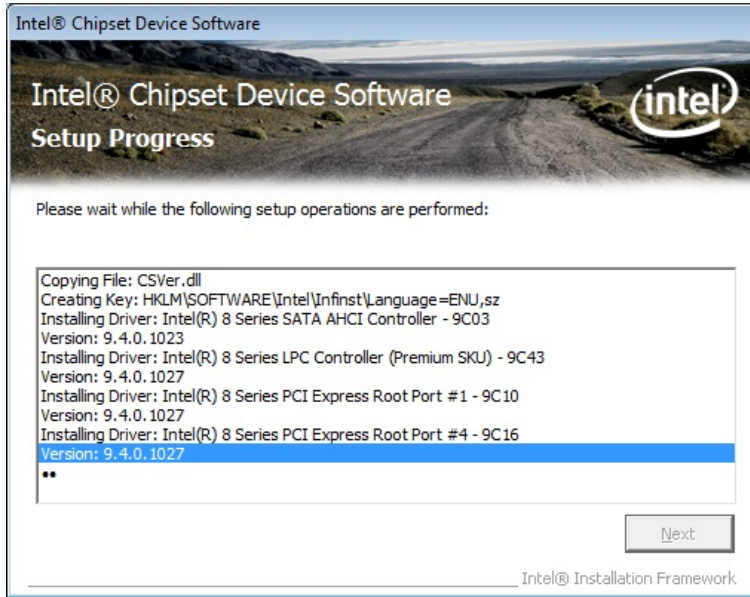

Figure 6-4: Chipset Driver Setup Operations
Step 11: Setup Operations are performed as shown in Figure 6-4.